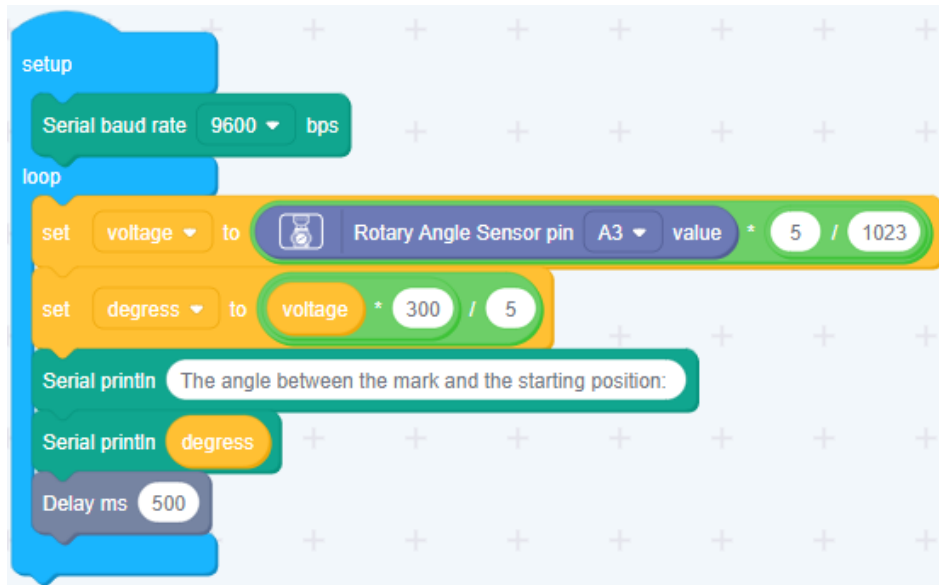

Figure 8.6: Codecraft Rotary Angle Sensor Setup
13. Blocks for Reading Voltage/Angle (Figure 8.6).